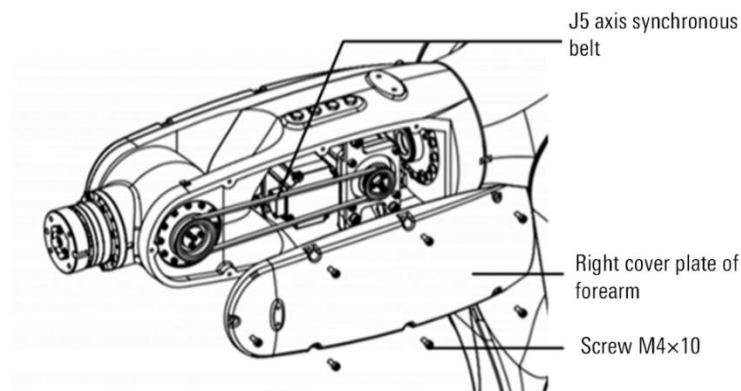

Figure 12-7 Remove the right cover plate of the forearm
- Step3. Remove the manipulator forearm cover plate and seven M4 screws, as shown in Figure 12-7.